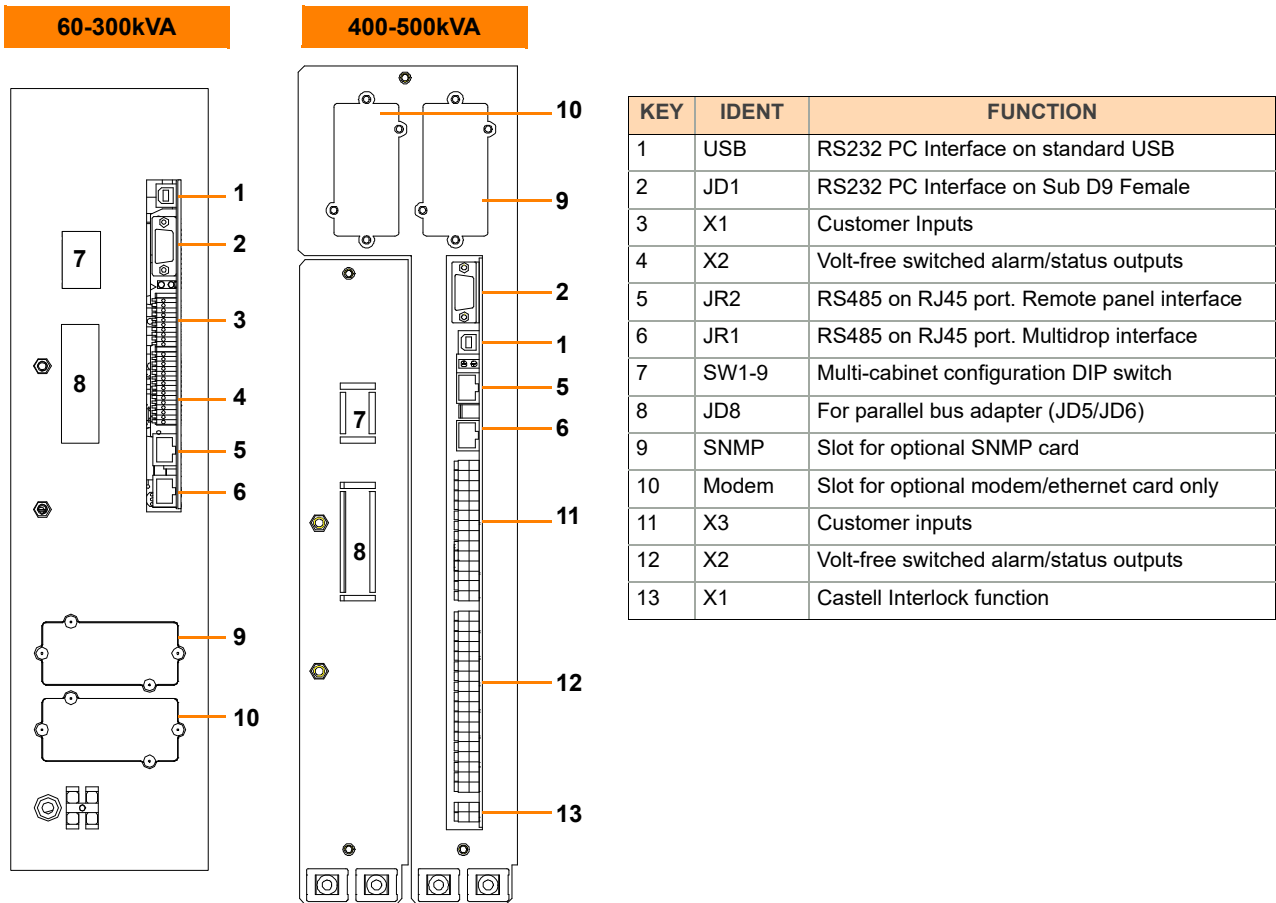

Figure 3.26 UPS Communications Interface Board connectors
2. Fit a parallel adaptor board over connector JD8 on the communications interface board in all UPS cabinets (JD8 is identified in Figure 3.26). The parallel adapter board contains a DIP switch (SW2-2) and two ribbon connectors, JD5 & JD6.
DIP Switch SW1-9 on the UPS communications interface board (See Figure 3.26) must be set to indicate the position of the cabinet in the parallel chain. The three options are: